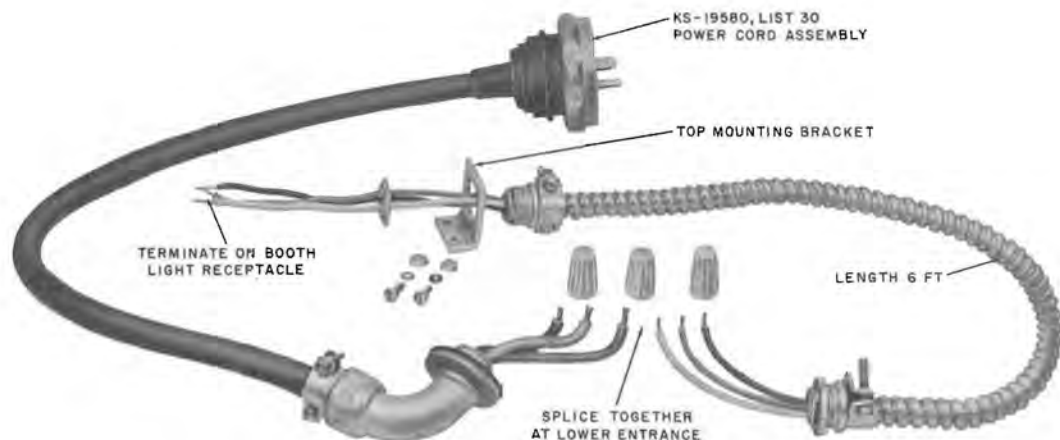

Fig. 13—KS-19580, List 31 Power Cord Group
- 2.26** KS-19580, List 31 power cord group (Fig. 13) is available for ground level power.